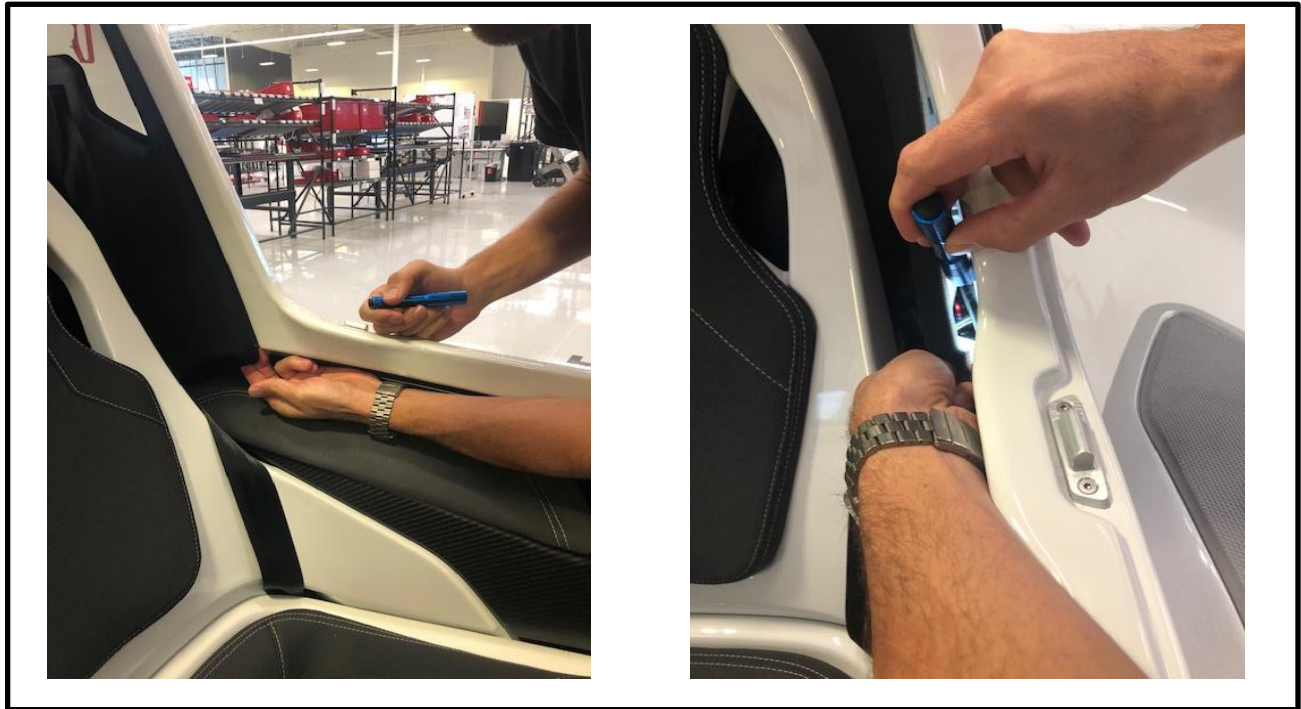

Figure1: Hook the left side cabin liner with fingers as shown and carefully flex liner inboard enough to insert a small flashlight.
- 2) Carefully flex back the left-hand cabin side liner as shown in figures 1 and 2 and visually inspect the fuel pump for a serial number as shown below. Figure 3 may be helpful in determining the